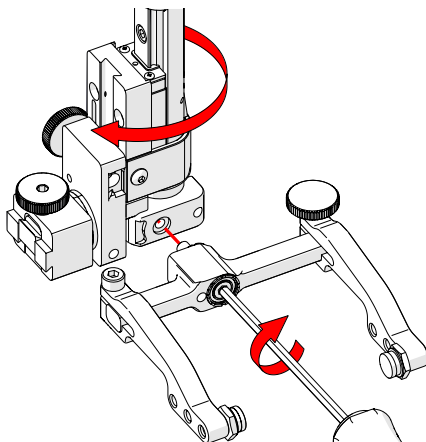

Fig. 120 - Screw yoke to opposite side
6. Mount the yoke to the opposite side of the base using the supplied 3 mm hex driver (Fig. 120).